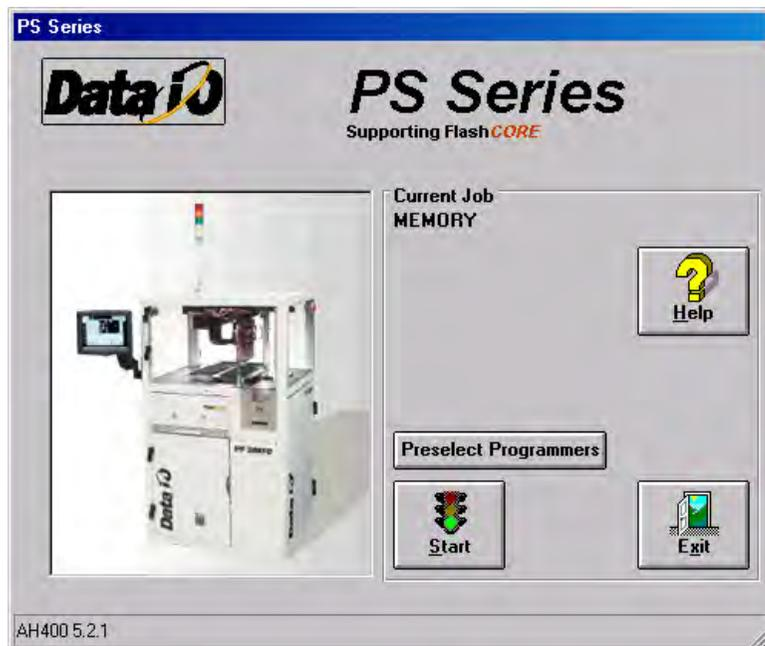

Figure 2-12—Main window
- 2a) From the Handler Computer interface, stop any Job that is running and exit to the main window as shown in *Figure 2-12*.